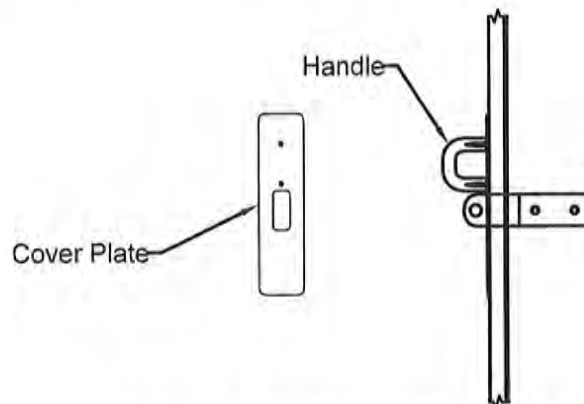

Figure 10.2 Cover Plate And Hasp Handle
10.6 Locate the hasp handles and screws. Attach handle with screws through the back side of the door and into the handle. See Figure 10.2.